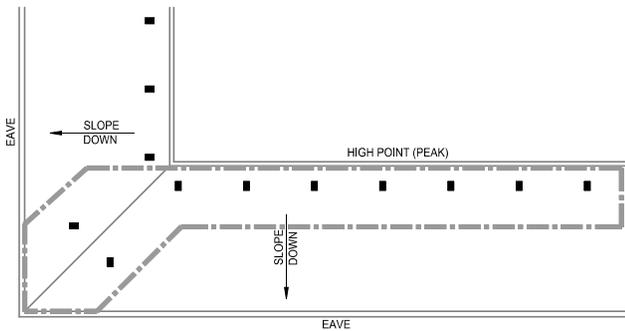

FIGURE 25A
- Calculate the 7 most hydraulically demanding contiguous DS sprinklers located along the high point plus the 2 most demanding sprinklers along the hip line. See Figure 25A.